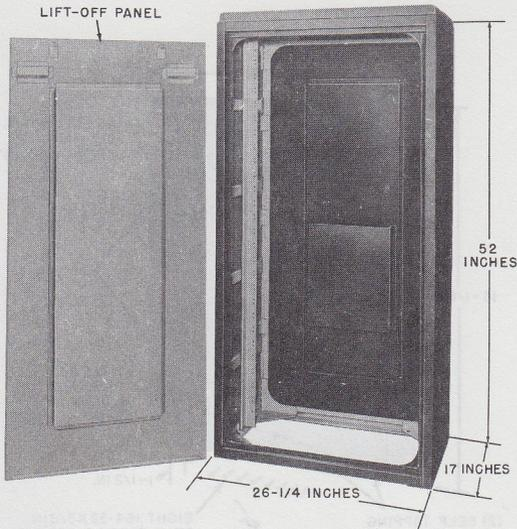

Fig. 17—26-Plate Apparatus Cabinet per ED-92185-70
4.08 The 26-plate apparatus cabinet per ED-92185-70* (Fig. 17) is a metal cabinet with a fixed mounting frame having a hinged door in front and lift-off panel in back. It is drilled for floor mounting.